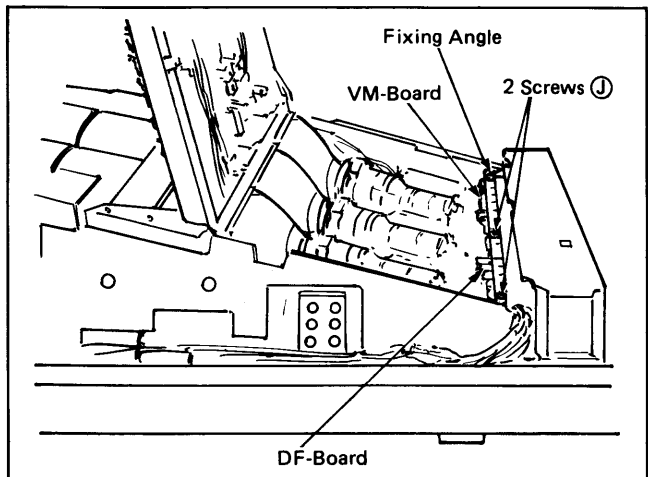

Fig. 9
- Remove 2 screws (J), and remove the fixing angle as shown in Fig. 9.